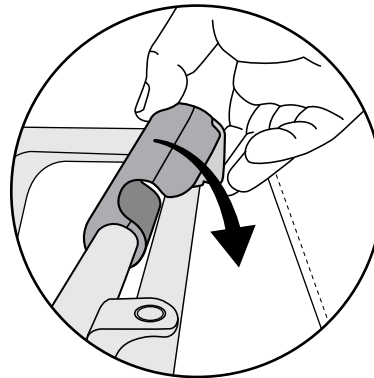

Figure 6
5. Secure the trailer frame by rotating the frame latch down until it snaps into place (Figure 6). Give the frame a slight tug upwards to ensure that the frame latch is engaged.